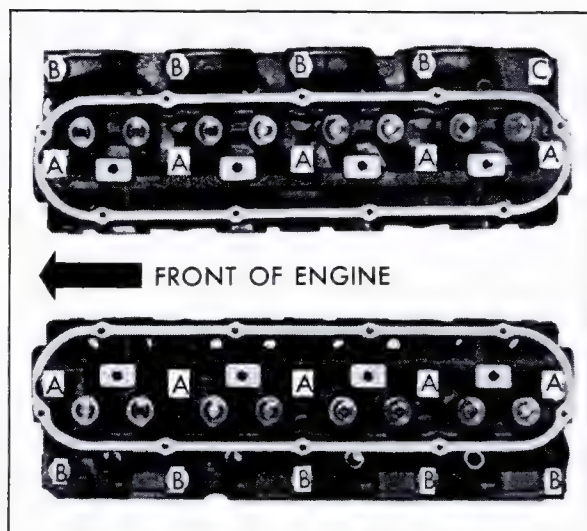

Fig. 6-115 Cylinder Head Screws
### b. Installation (Fig. 6-115)
4. Install ten cylinder head screws finger tight in locations as indicated in Fig. 6-115.